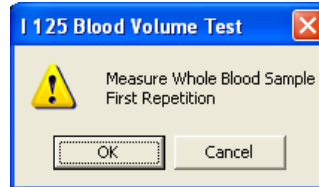

Figure 10-43
6. The next screen appears as shown in Figure 10-43, prompting you to measure the whole blood sample.
To measure the plasma sample, place that sample in the well and click the  button. To quit counting, click the  button and Figure 10-43 will appear.